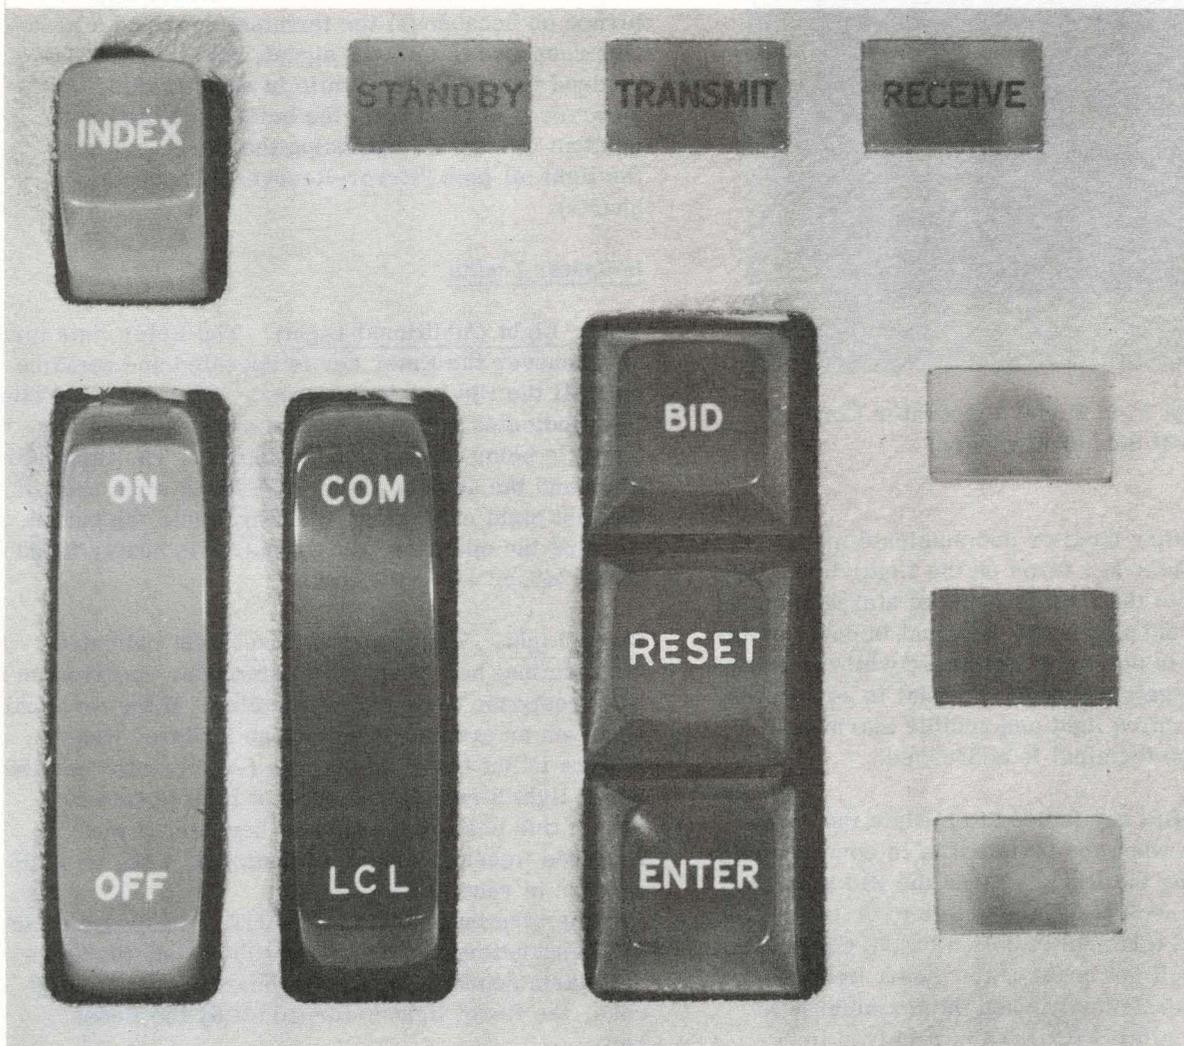

Figure 24. IBM 2740 Model 2 Operator Controls (Right Side of Keyboard)
**KEYS, LIGHTS, AND SWITCHES (Figures 24 and 25)**